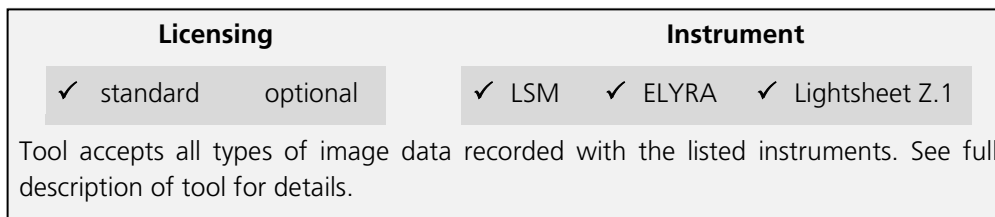

Fig. 399 Processing – Image Calculator
- Click on the triangle buttons to show or hide the **Method Parameters** and **Preview** panels (Fig. 399) for the function.